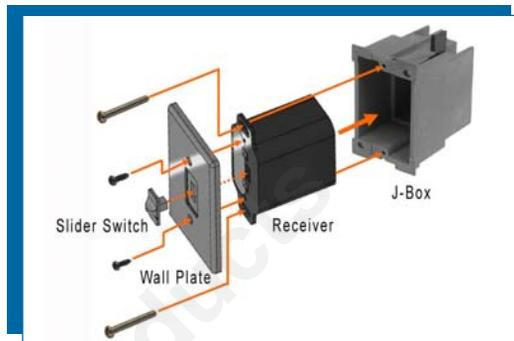

Fig. 5
2. Install the receiver in the Junction box using the existing J box screws. (Fig. 5)
9. Using the two (2) screws provided secure the cover plate to the receiver.